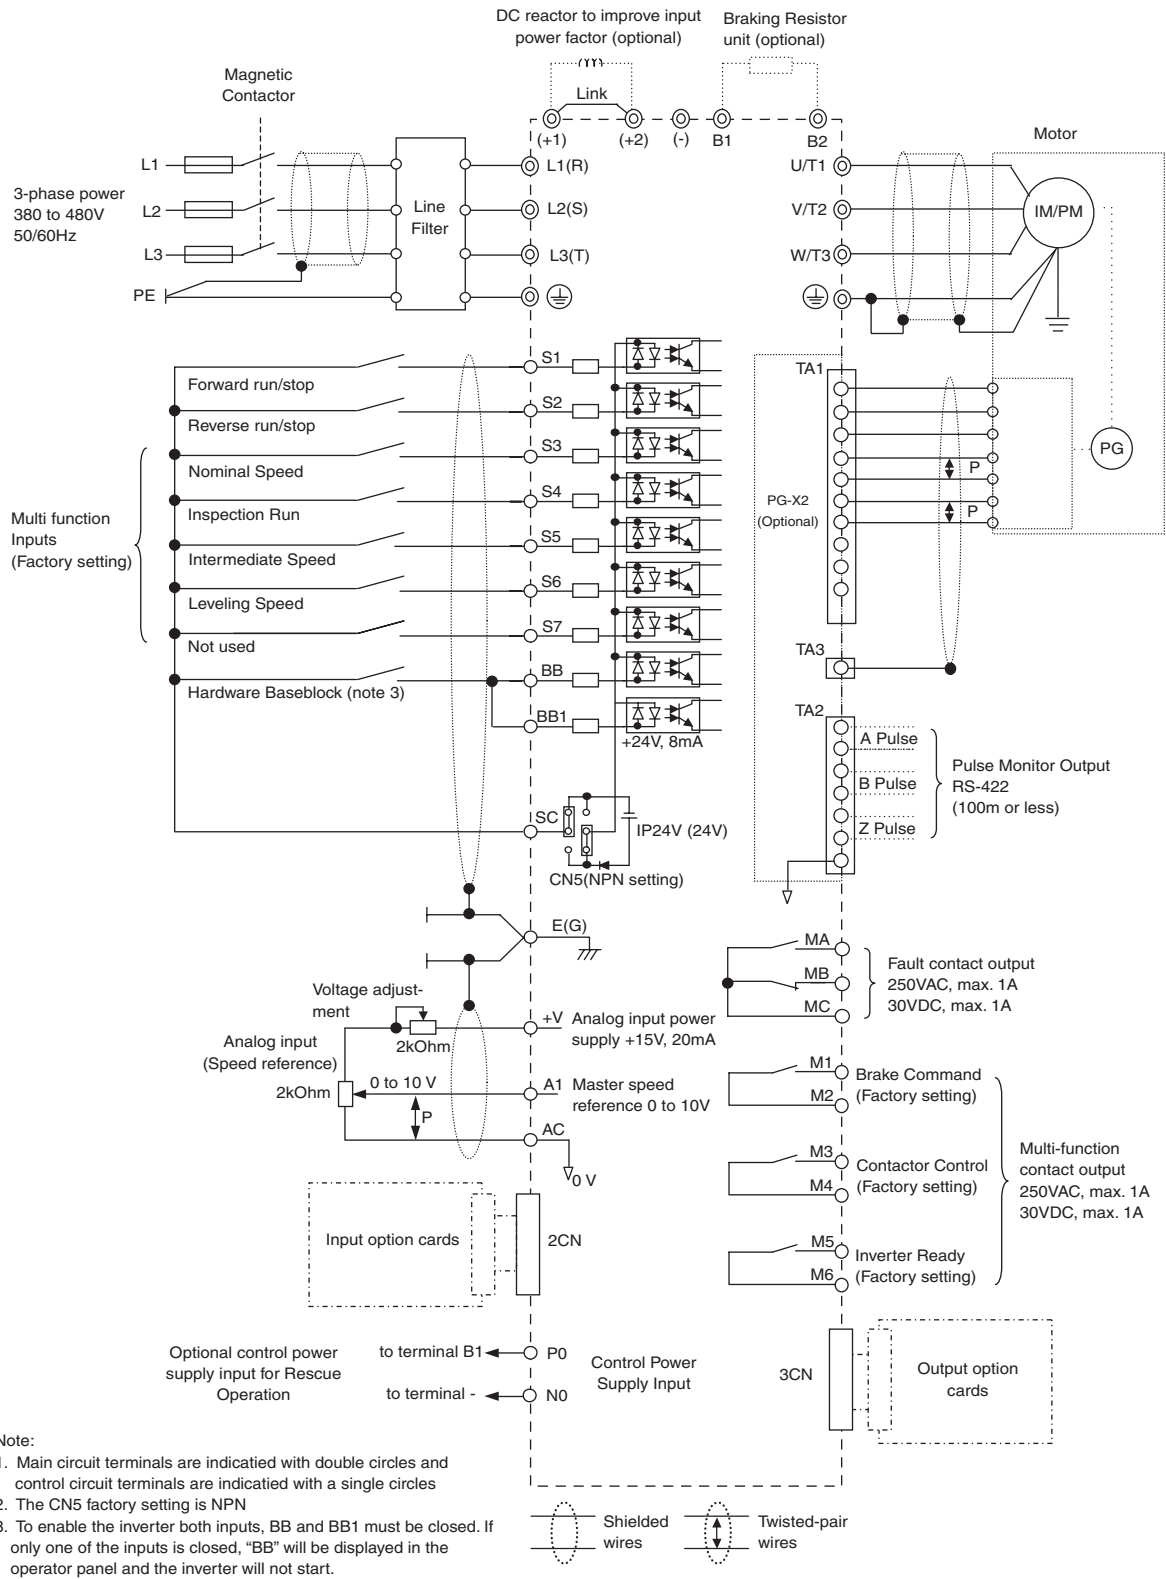

Fig 4 Wiring Diagram
- In Fig 4 the wiring of the digital inputs S1 to S7 and BB, BB1 is shown for the connection of contacts or NPN transistors (0V common and sinking mode). This is the default setting. For the connection of PNP transistors or for using a 24V external power supply, refer to Table 3.